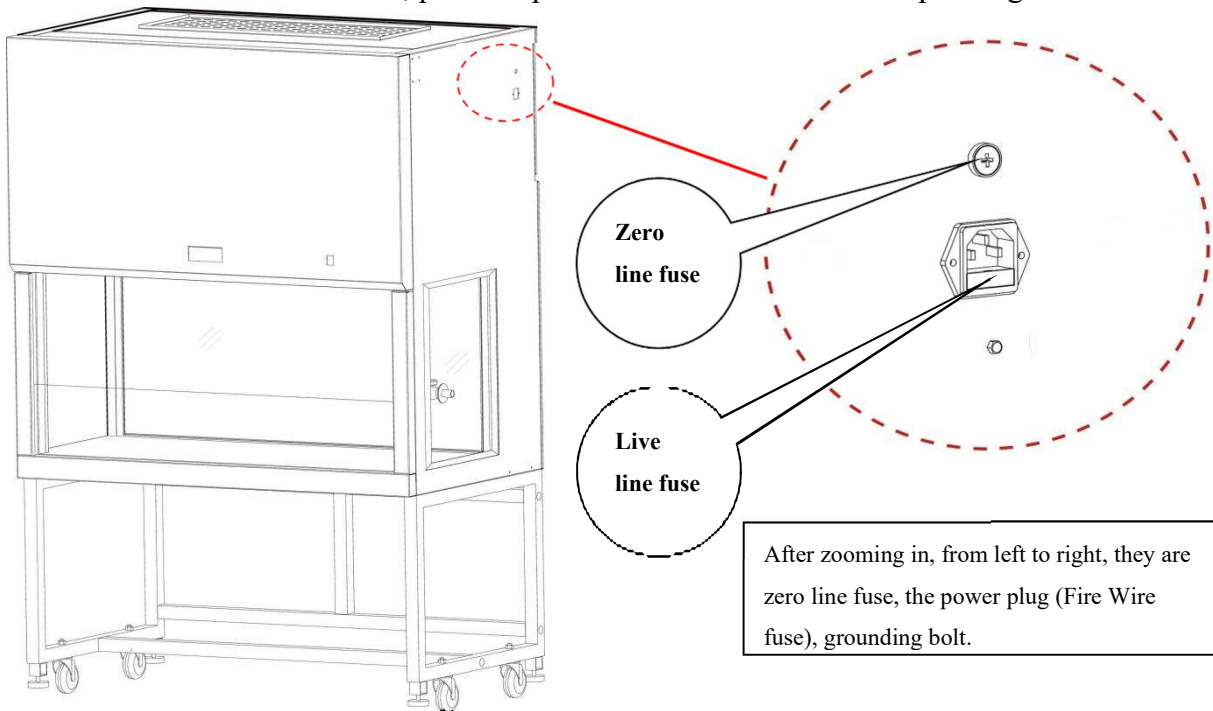

Figure 1 Fuse location and replacement
1.2 The live line and zero line are equipped with fuse where the power-input port located (as Figure 1). After confirming that there is no problem about the above items, then confirm whether the two fuses are blown. If the fuses are blown, please replace the fuses with the corresponding labels.